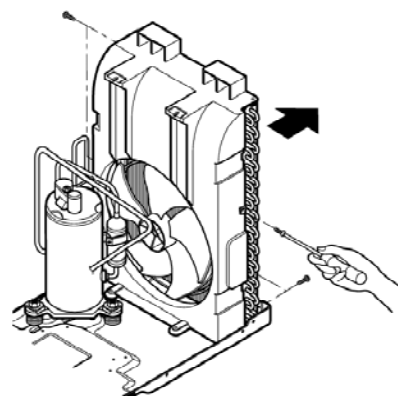

Figure 15
3. Remove the 4 screws which fasten the condenser and shroud. (See Figure 15)
7. Re-install the components by referring to notes. (See Figure 15)